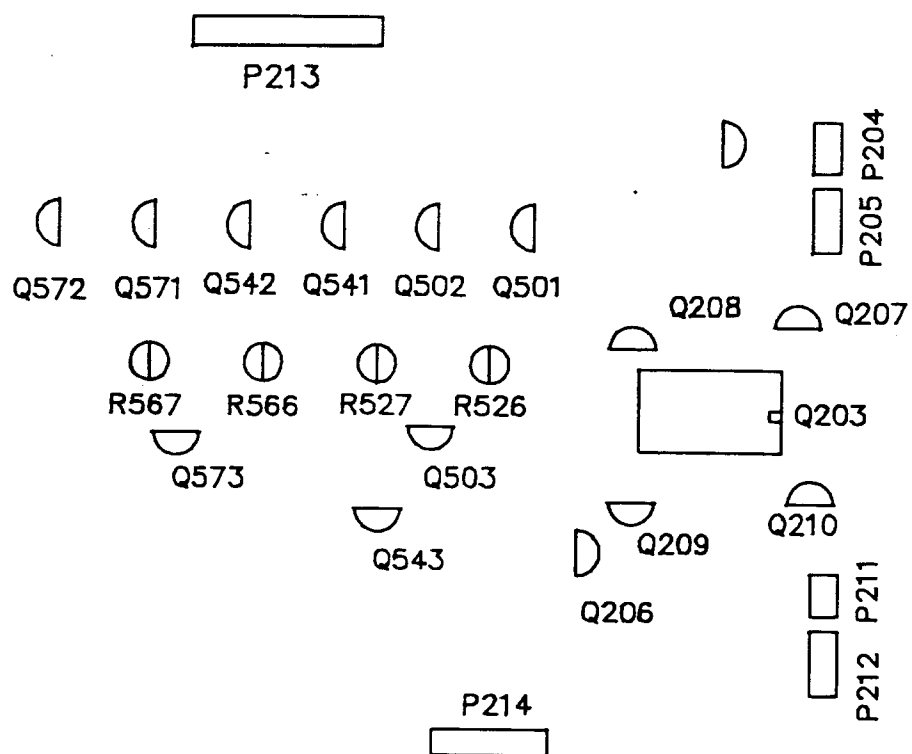

Fig 4-2 PCB-VIDEO DRIVE adjustment and test location
- (2) PCB-VIDEO DRIVE adjustment and test location. (See Fig 4-2)